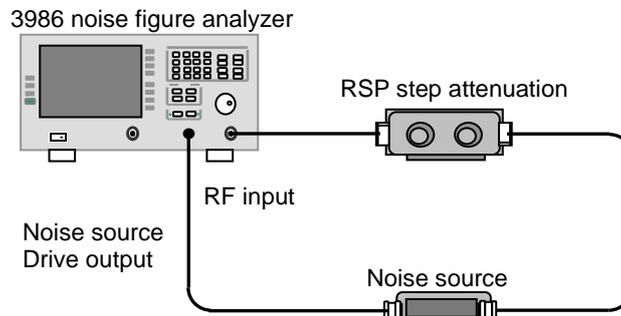

Figure 8.5 Test Block Diagram of Gain Measurement Range and Measurement Uncertainty
Step 1. Connect the test system as shown in Figure 8.5 and warm it up for 30min.